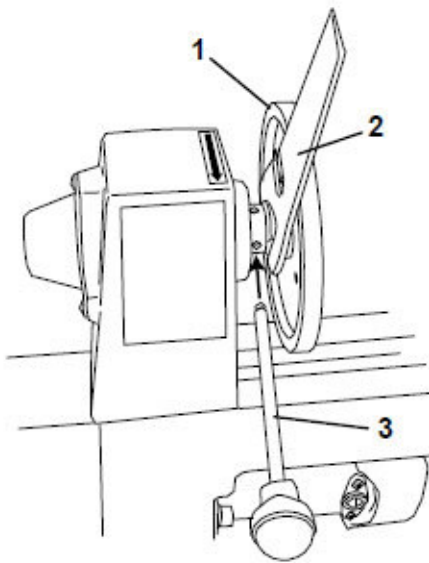

Fig. 6: Drive plate
- Step 1: Screw the drive plate (item 1, Fig. 6) onto the end of the headstock shaft and tighten by hand.
- Step 2: Place the wrench (item 2, Fig. 6) onto the drive plate.
- Step 3: Insert the tip of the locating rod (item 3, Fig. 6) into one of the slots on the side of the headstock shaft.